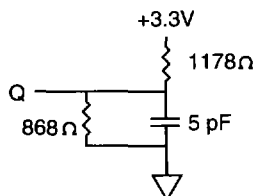

Figure 2
- Output loading is specified with $C_L = 5pF$ as in Figure 2. Transition is measured $\pm 200mV$ from steady state voltage. These parameters are sampled.